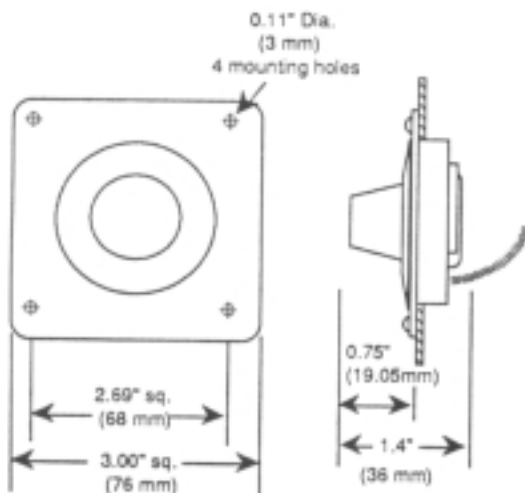

Figure 2 - Setpot Dimensions
2. Drill 2.25" (60 mm) diameter hole (or use a 2.25", 2.375", 2.50", or 2.675" punch) at desired remote setpot assembly location. See Figure 2.